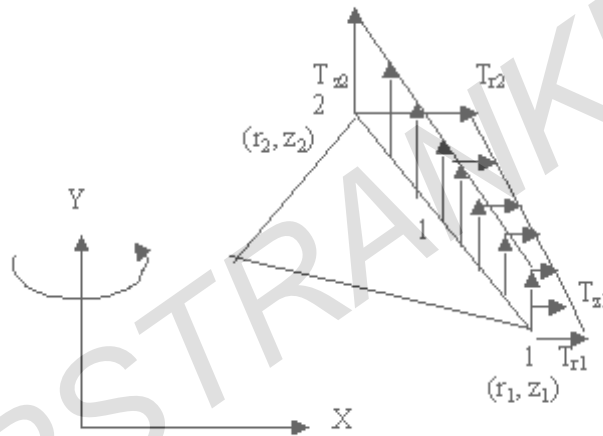

Figure 3
8. For the linearly varying distributed load on the axisymmetric conical surface shown in figure3. Prove that the equivalent point load vector T is given by